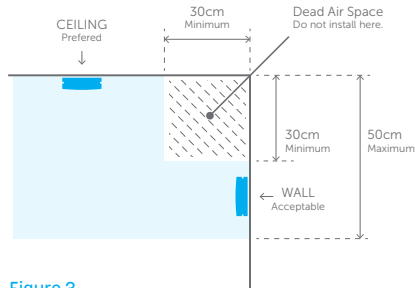

Figure 3
- On ceilings, position alarms at least 300mm away from walls or corners (see Figure 3).
- Position them between 300mm and 500mm from the ceiling (see Figure 3).
Avoid areas where smoke might not reach the alarm. Install more than 500mm away from the peak of an 'A' frame and not between exposed floor joists (see Figure 3, 4 & 5).